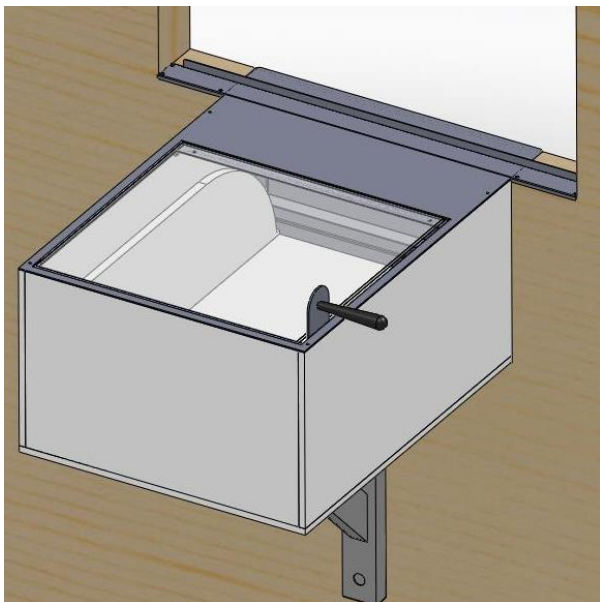
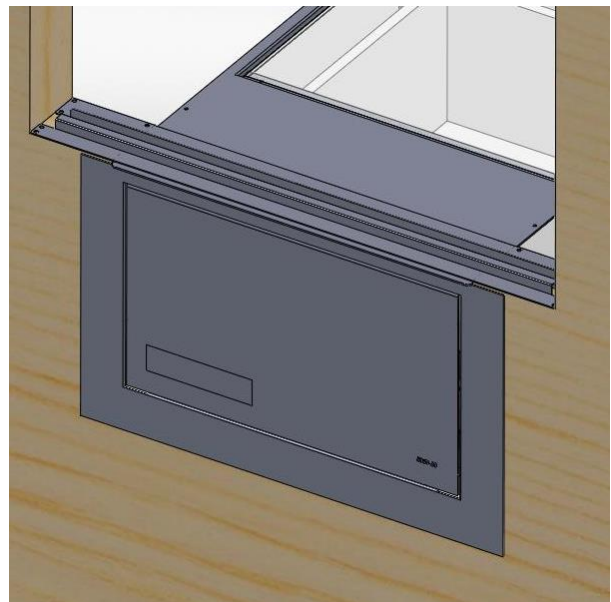

Figure 11. Loosely position the drawer-side Interior Mounting Plate
Figure 12. Loosely position the Exterior Mounting Plate
- F. Loosely position the Interior Mounting Plate as shown in **Figure 11** and then position the Exterior Mounting Plate as shown in **Figure 12**. Do not fasten.